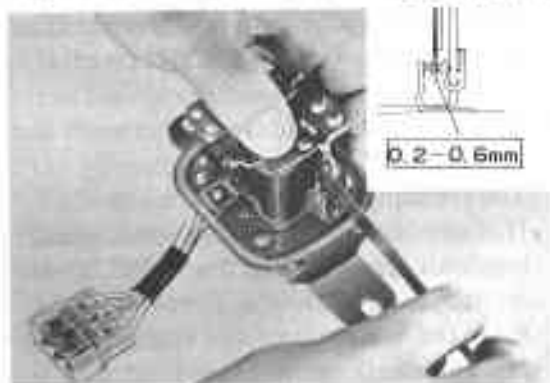

Fig. 8-36 Checking Spring Deflection
3. Press the armature, and check the contact spring deflection with the feeler gauge. Fig. 8-36.